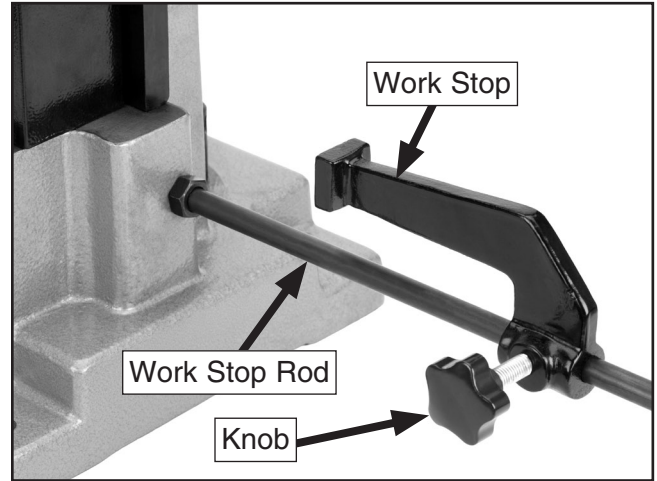

Figure 7. Work stop.
3. Thread the work stop knob into the work stop, then slide the work stop onto the work stop rod (**Figure 7**).